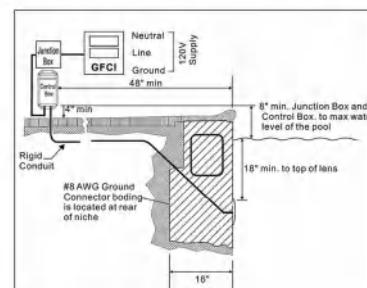

Figure 2
2. Drill 1 hole on the flat place you intend to mount the pool light, use 1 expansion screw to fix the light.treat the light with silicon around the light.(you may need to cut off the bolt that is for wet niche install.)See Figure 2